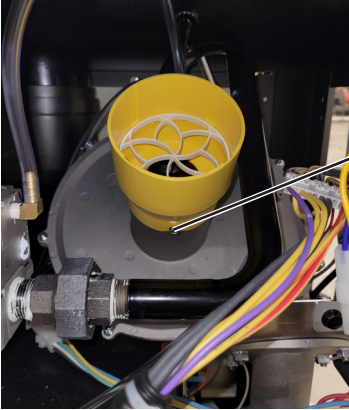

Figure 6.
8. **REPLACE YELLOW AIR ORIFICE WITH NEW BLUE ORIFICE:** Disconnect all the tubing attached to the Yellow air orifice. Use a 5/16" socket wrench or 5/16" ratchet wrench to remove the hex screws from the Yellow air orifice. Discard the Yellow air orifice. See Figure 6.
Remove tubing attached to air orifice. Use a 5/16" socket wrench or nut driver to remove the two air orifice hex screws securing the Yellow air orifice, see Figure 6.